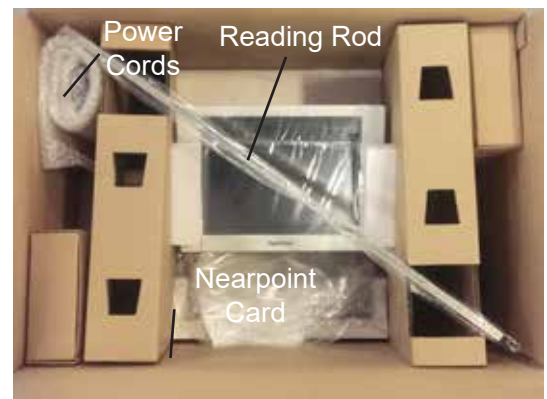

Figure IS-02 Controller & Accessories
5. Remove the Reading Rod, Nearpoint Card, Dust Covers and User's Guide from the box. Refer to Figure IS-02.